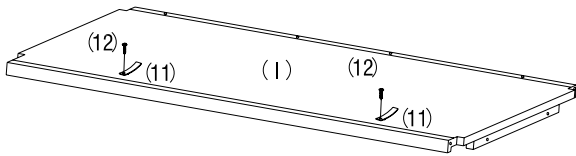

FIGURE 2
4. TIGHTEN SMALL WOOD SCREWS (12) THROUGH DRAWER STOPPER (11) INTO PREDRILLED HOLES ON BOTTOM PANEL (I). INSERT SMALL MACHINE SCREWS (2) THROUGH PREDRILLED HOLES ON FAUX DRAWER FRONT PANELS (A) AND TIGHTEN INTO METAL KNOBS (1). (AS SHOWN IN FIGURE 2 & 3)